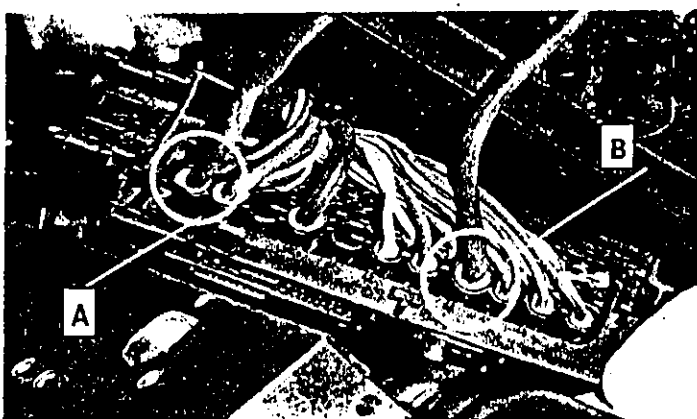

Figure 8: A = pin 37, B = pin 44
11. Be sure to remove pin 37 and pin 44 (Figure 8) from the SBC connector housing using cable release tool (W 000 589 13 99 30 and W 220 589 01 99 50), as the SBC connector housing otherwise can be damaged.